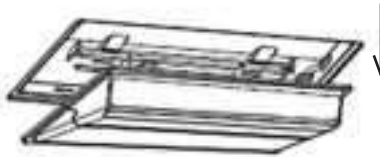

Fig. 13
2. Take off the cover and thermostat downwards in the direction of the arrow (Fig. 13).